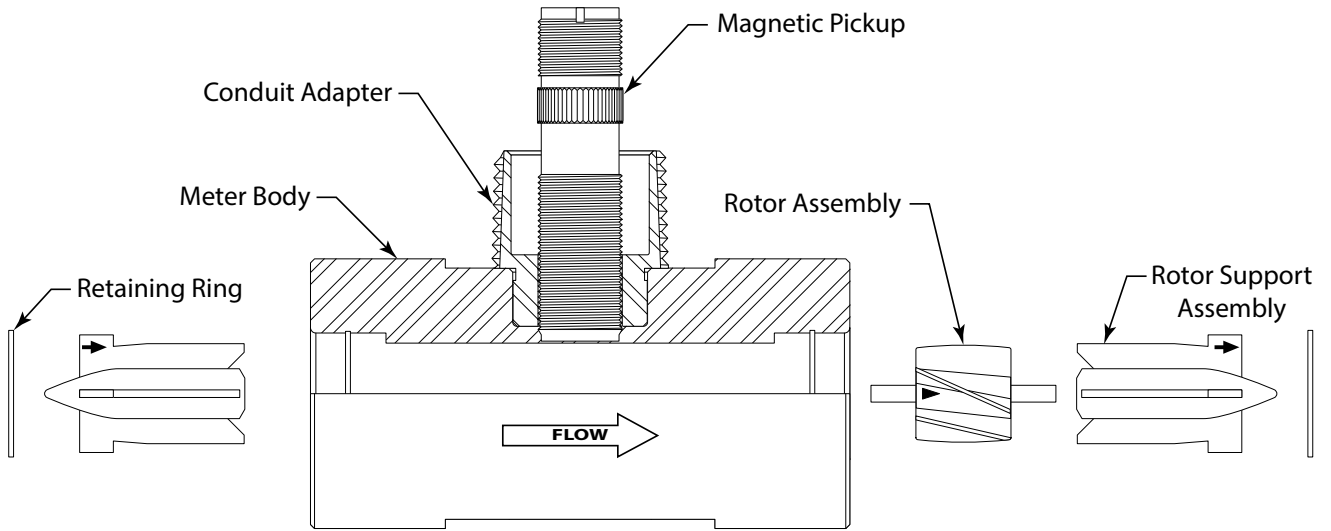
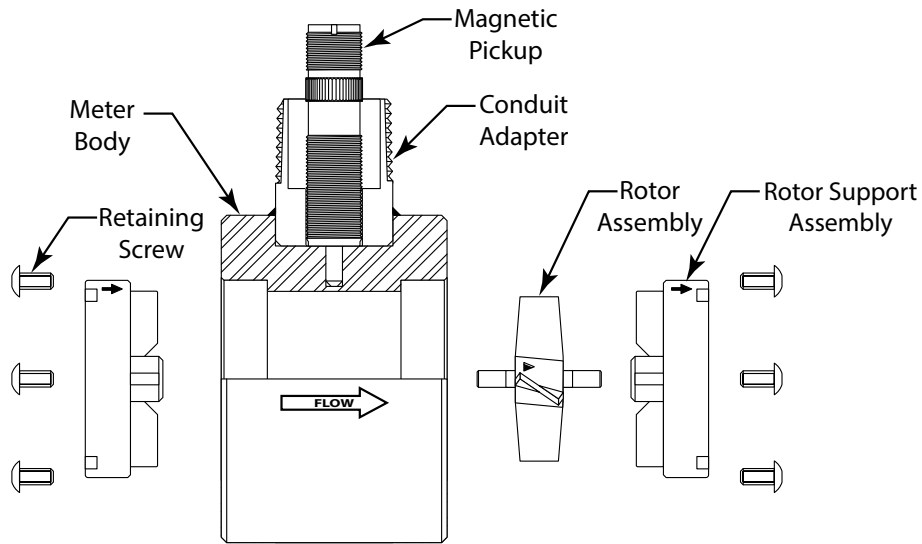

Figure 1: Relative positions of internal components for all QuikSert meter sizes B131-038 through B131-100
Figure 2: Relative positions of internal components for all QuikSert meter sizes B132-050 through B139-900
1. See Figure 1 on page 3 and Figure 2 on page 3 for relative positions of repair kit components.
Figure 1 on page 3 and Figure 2 on page 3 show the proper alignment and orientation of the repair kits.
NOTE: Meters 2 inches and larger will have retaining screws on both ends of the meter (see Figure 2).
NOTE: Meters 2 inches and larger meters will have retaining screws on both ends of the meter (see Figure 2).